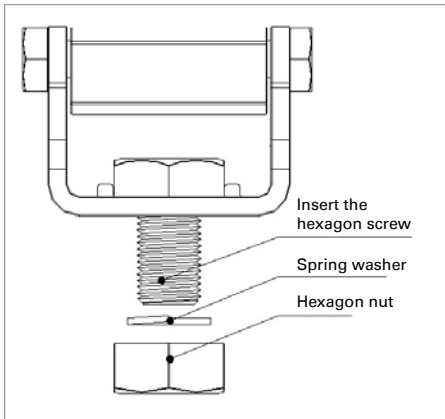

Figure 1
- c. Place the spring washer on the fixing screw. Insert the fixing screw through the holder of the worklight (see Figure 1).